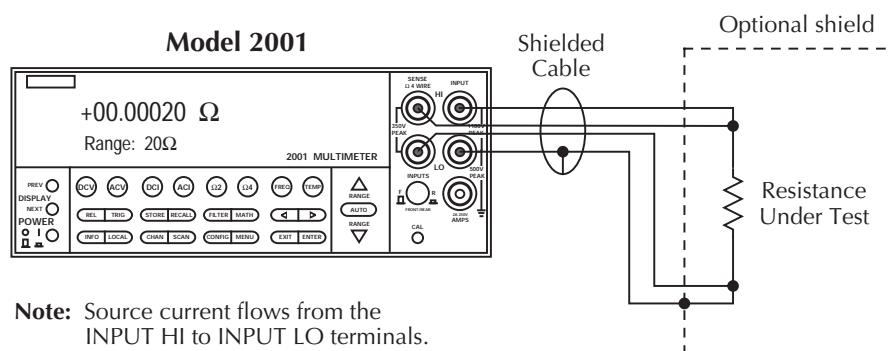

Figure 3-15
5. Connect the test leads to the resistance as shown in Figure 3-15.